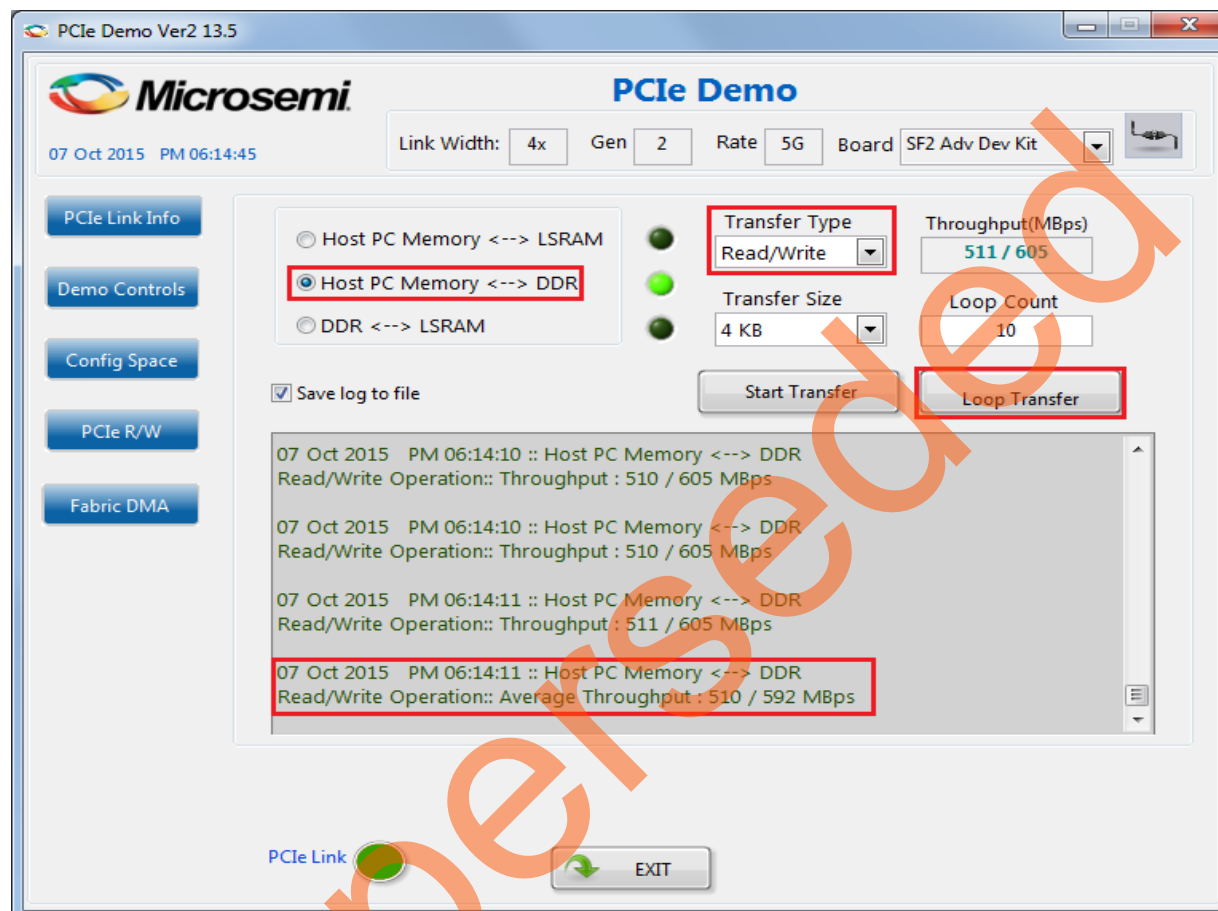

Figure 32 • DMA between Host PC Memory and DDR
22. Select the type of DMA transfer as Host PC Memory to DDR3, select **Transfer Type** as **Read/Write** to perform simultaneous read and writes. Click **Loop Transfer** to perform 10 repeated DMA transactions. After completion of data transfer the throughputs is displayed as shown in Figure 32.